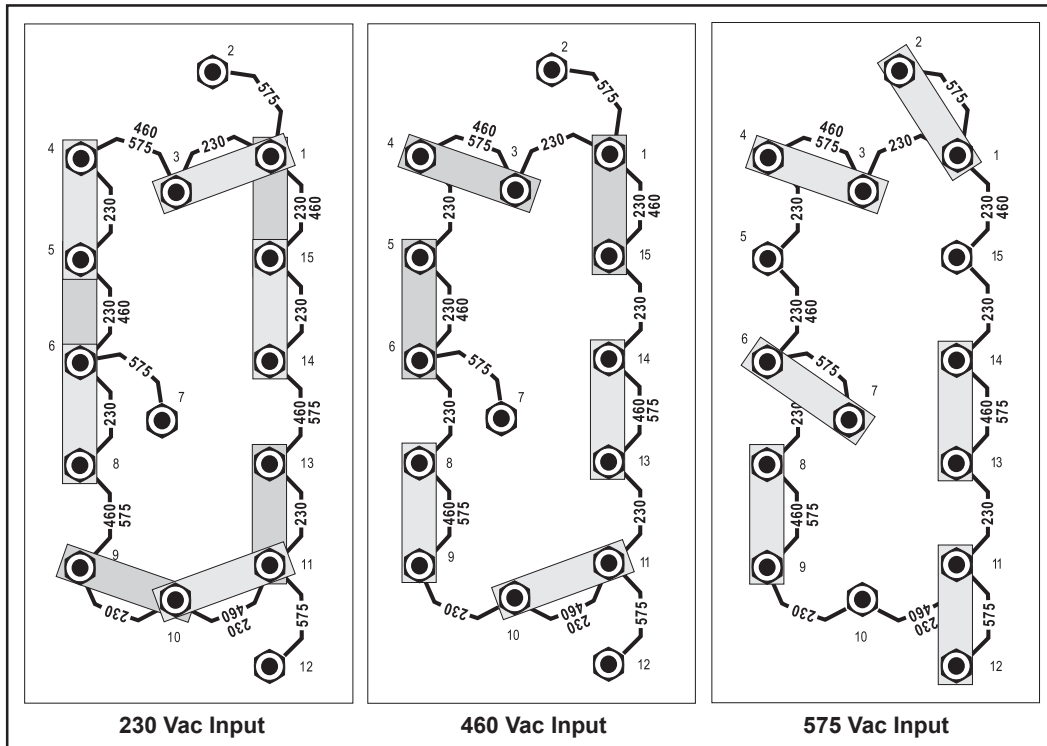

Figure 3-3. Input Terminal Board Configuration for 230/460/575 Model (factory supplied in the 575 configuration)
- Figures 3-3 thru 3-5 illustrate the input voltage terminal board and the input voltage link connections. The particular voltages from which this power source may be operated are stated on the rating plate. The voltage links were factory set for highest voltage stated on the rating plate (575VAC). If the power source is to be operated on another stated input voltage, the links must be reset for that particular input voltage. Always verify the input voltage and check the link arrangement regardless of factory setting. The voltage links are set up by reconfiguring the copper link bars to the silk-screened voltage designations for the desired voltage.